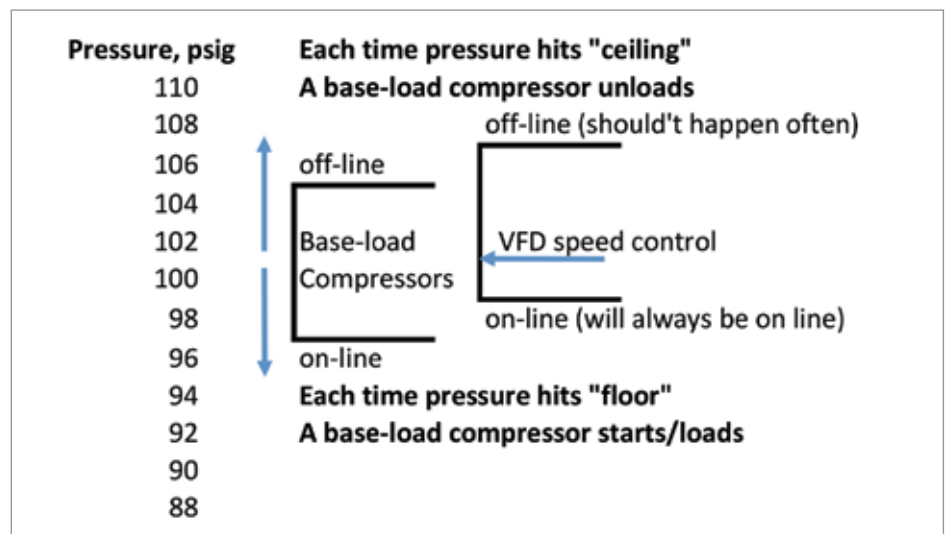

Figure 1. Target algorithm for a properly sized VFD air compressor.
VFD air compressor at 1.5 X the base-load air compressor size, without going into detail about the control gap problem. The VFD air compressor speed control is set in the middle, or "target," and the base-load air compressors "bracket" it. They operate with one or multiple pressure windows, fully bracketing the VFD unit. See Figure 1. The pressures are arbitrary; the differences in pressure are what is important.
Notice I said "improperly sized" VFD air compressor. What would happen in Figure 1 if the base-load air compressor was the same size as the VFD air compressor, which is a typical scenario? What would be the problem with that?
- The VFD proportional range (in pressure) was too large. It couldn’t be bracketed by a target like that shown in Figure 1 without a huge pressure range.